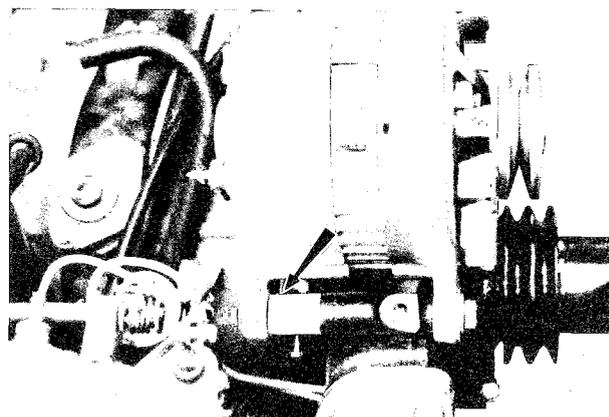

Fig. 1-94 Adjusting alternator fitting
1. Place the alternator to the bracket with the bolt, and check the clearance as shown in Fig. 1-94. If the clearance is more than 0.15 mm (0.0059 in), adjust it by using the following adjust shim.